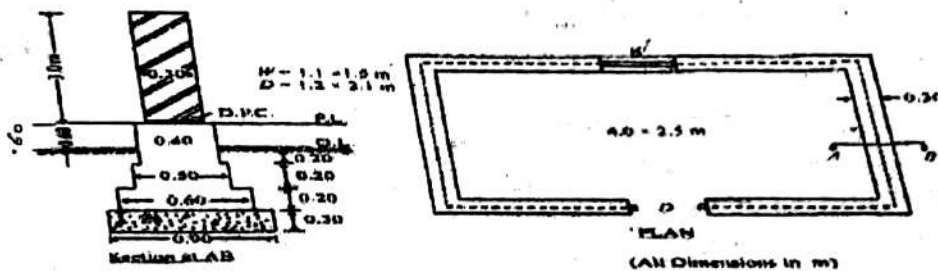

Fig. 1
**Q1.** Fig 1 shows a room of internal dimensions 4.0m x 2.5m. Calculate the quantities of following items of work: